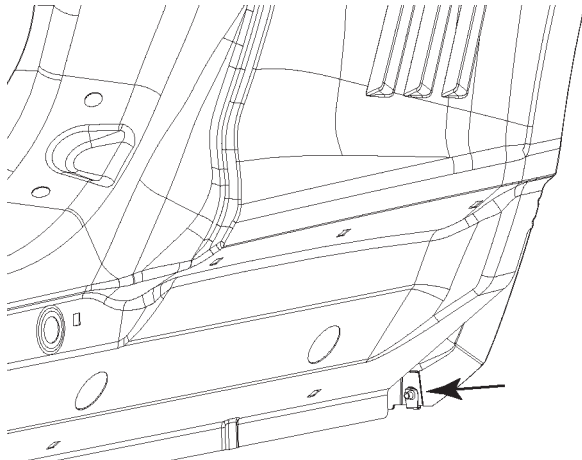

FIGURE 24
8. Insert 1 U nut onto rear wheel liner lower hole. Refer to figure 24.